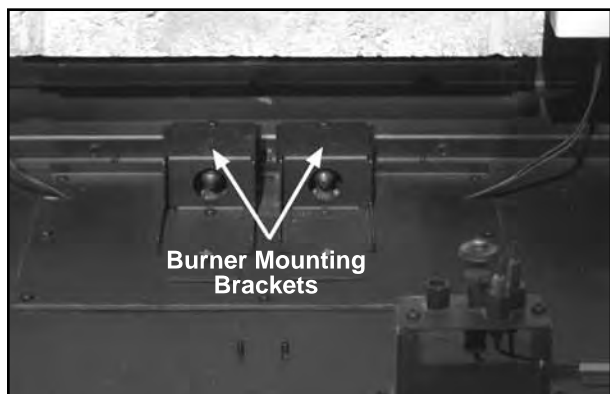
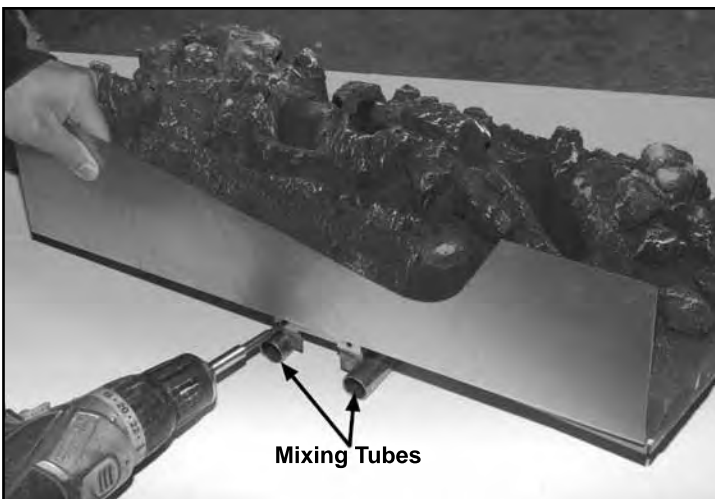

Figure 68: Burner Mounting Brackets.
Figure 67: Installing Rear Burner Shield.
1. Use the two (2) T-20 screws provided; install the rear burner shield onto the back of the burner. The mounting holes are just above the mixing tubes at the rear of the burner, refer to Figure 67.
2. In the bottom rear of the firebox there are two (2) gas orifices in a housing that facilitate the air shutter mechanisms and the Burner Mounting Brackets are above them (See Figure 68). There are two (2) mixing tubes underneath the back of the burner (see Figure 67). Lift the burner into the firebox with the back of the burner tilted downward. Keep the burner high enough at the front to clear the pilot assembly. Line up the mixing tubes with the holes in the burner mounting brackets and slowly lower the front of the burner over the pilot assembly (see Figure 69).